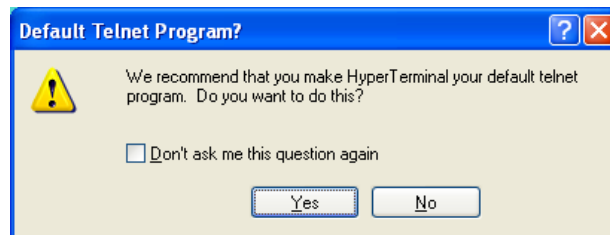

Figure 6-1: Default Telnet Program Screen
2. If the *Default Telnet Program?* screen appears, click **No** (Figure 6-1).